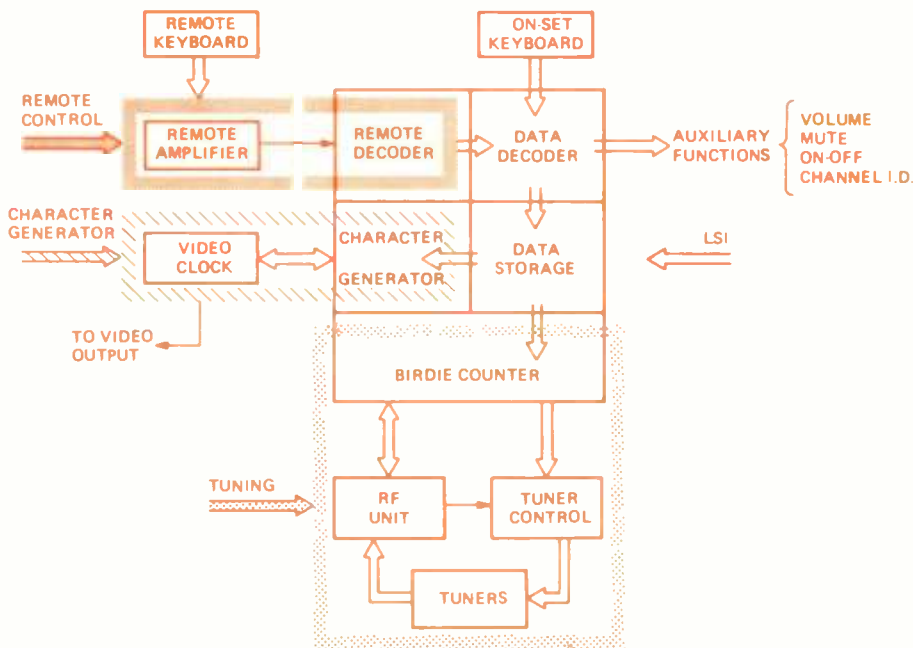

FIG. 1—BLOCK DIAGRAM OF THE MOSTEK LSI that makes the STAR system work. Data enters the system from the keyboard on the remote or from the one on the set.
2) Make the other labeled connections to an SN74154 four-to-sixteen decoder as shown in Fig. 1. Connect the new OUTPUT signal as shown.